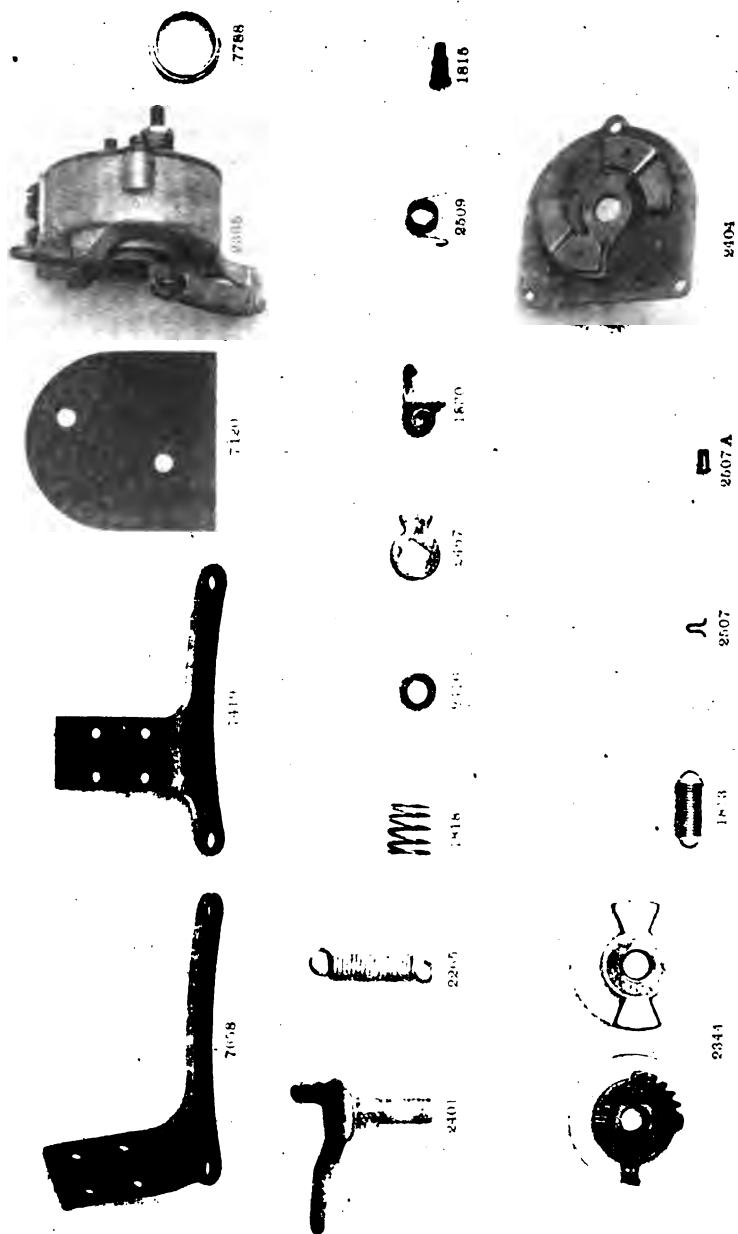

Fig. 306. View of Essential Parts of North East Starting Switch
**Starting Switch.** When its operation indicates that the contactor blades have worn, the starting switch should be dismantled, and, if necessary, new blades should be inserted. To disassemble the switch, proceed as follows: (1) Remove the spring 2265, Fig. 306, on the switch case 2365; (2) remove the cotter pin from the collar 2416; (3) withdraw the shaft and lever 2401, together with the spring 1818; (4) remove the three screws which hold the cover 2404 in place,